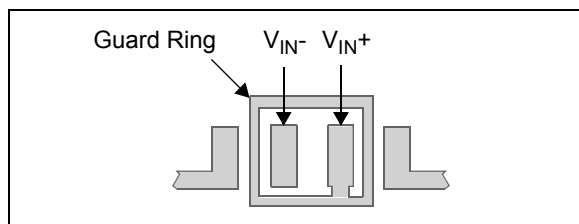

FIGURE 4-5: Example Guard Ring Layout.
The easiest way to reduce surface leakage is to use a guard ring around sensitive pins (or traces). The guard ring is biased at the same voltage as the sensitive pin. Figure 4-5 shows an example of this type of layout.
1. Inverting Amplifiers (Figure 4-5) and Transimpedance Gain Amplifiers (convert current to voltage, such as photo detectors).